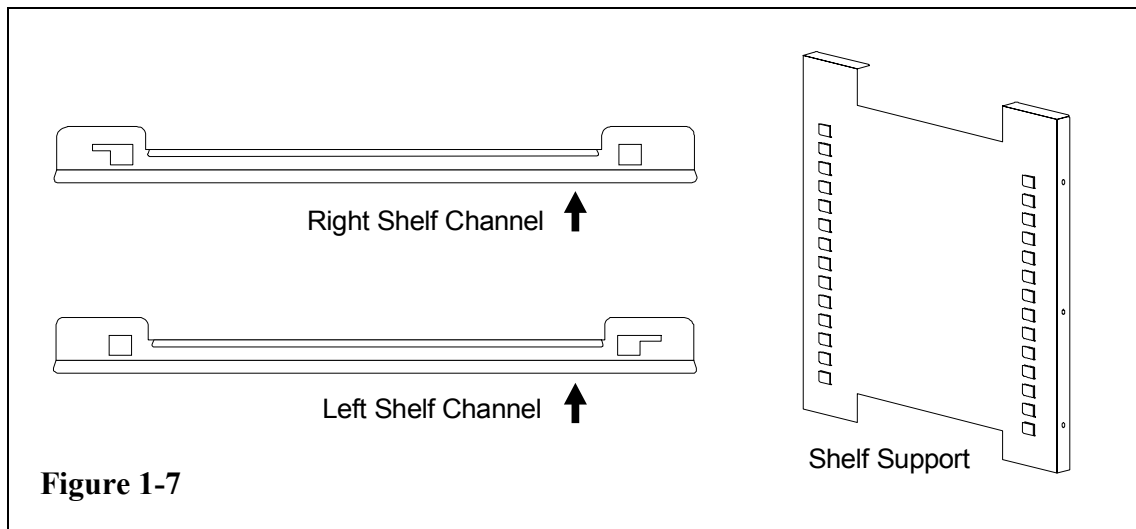

Figure 1-7
1. Install the large sheet metal shelf supports with the tabs facing into the center of the chamber with their slots up. There are no right side or left side supports, simply turn one of them to fit the opposite side. Tilt the shelf supports as they are placed in the chamber so the tops fit into the top air duct, then guide them into the vertical position. Figure 1-7 shows the support as it would be oriented for the right side of the chamber.
2. Referring to Figure 1-7, note that there *are* left side and right side shelf channels.